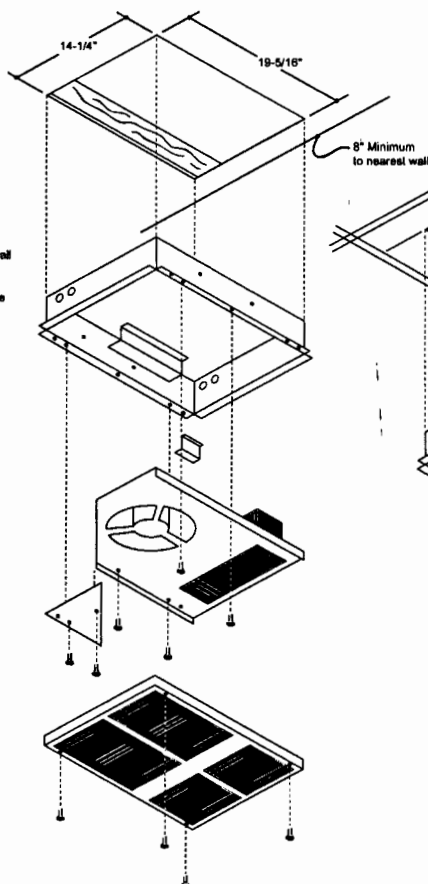

Fig. 2
1. Disassemble heater as shown in Fig. 1 & Fig. 2.
2. Flush Mounting (Fig. 2). Provide opening in ceiling 14 1/4" wide by 19 5/16" long. Note that the direction of air flow is parallel to the 19 5/16" side of the opening. Depth must be a minimum of 4" from the finished ceiling surface. Install rough-in box into the opening so that the flanges are flush with finished ceiling surface. Secure rough-in box with nails, screws or appropriate fasteners. Wiring may be brought into the box from either end using the knockouts provided.